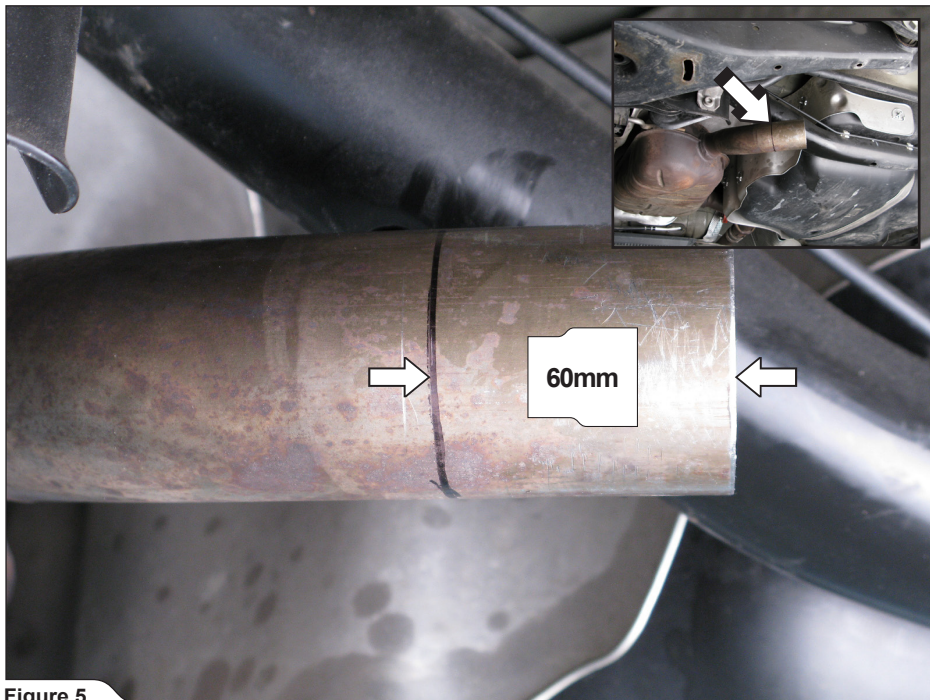

Figure 5
1. For 1.4TSI model only: mark the stock pipe 60mm from the cut (for later adapter's adjustment (Figure 5)).